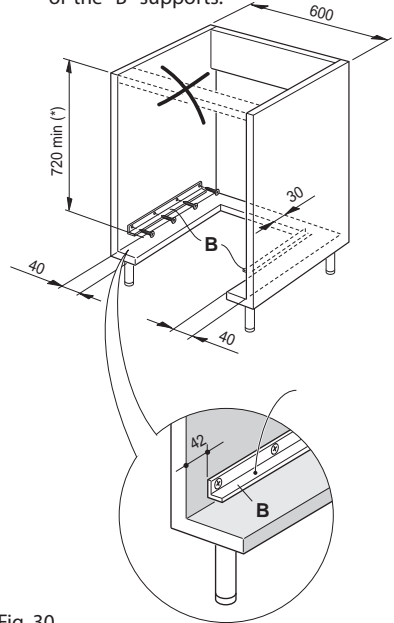

Fig. 30
- Remove the upper cross member support as indicated in figure 30.
- Cut the bottom of the housing as indicated in figure 30.